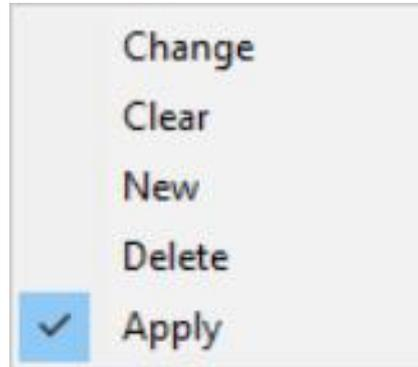

Figure 4-150B
- 3) Right-click on the Group Color to display the menu (Figure 4-150B).